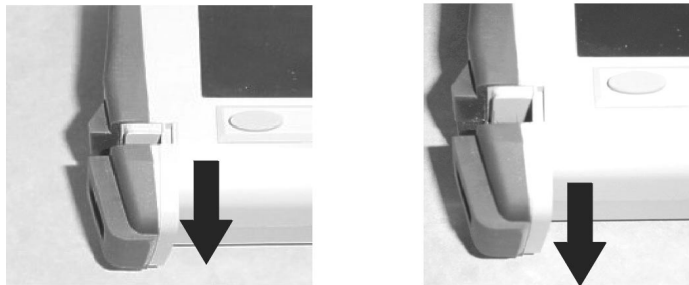

Figure 9. Removing the Battery Access Door
3. Remove the battery access door, as illustrated in Figure 9.